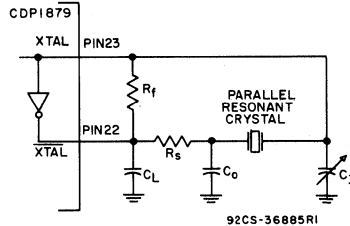

Fig. 6 - Suggested oscillator circuit applied to real-time clock (see Table III).
1. An external crystal that is used with the on-board oscillator. The oscillator is biased by a large feedback resistor and oscillates at the crystal frequency (see Fig. 6, Table III).
TABLE III - Typical Oscillator Circuit Parameters for Suggested Oscillator Circuit, see Fig. 6